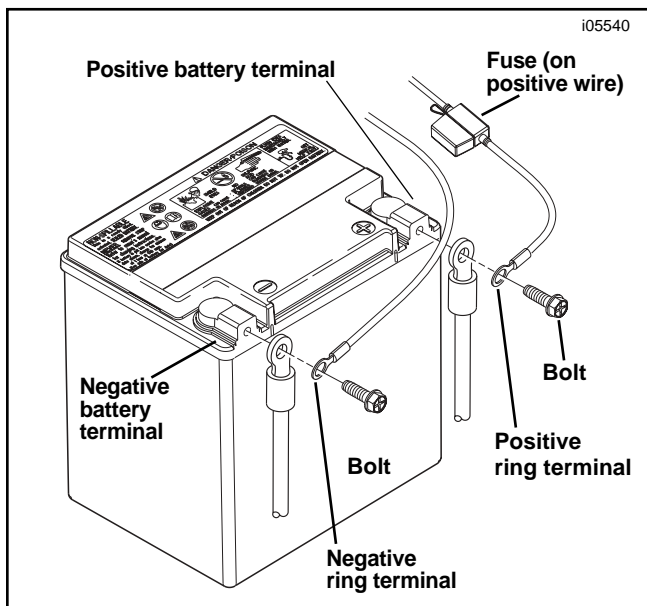

Figure 2. Positive and Negative Battery Terminals
2. See Figure 2. Install the positive ring terminal of the connecting harness to the battery as follows: